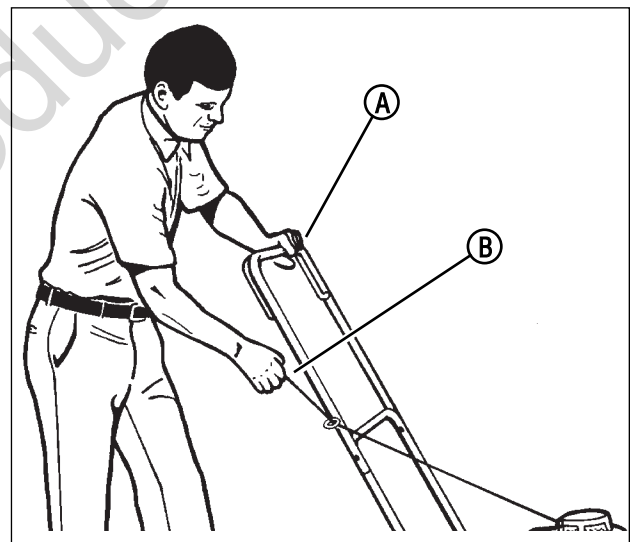

Figure 19: Starting the engine
6. Stand behind the mower. Use one hand to hold the engine stop lever in the operating position (A, Figure 19). Use the other hand to hold the recoil-start grip (B).